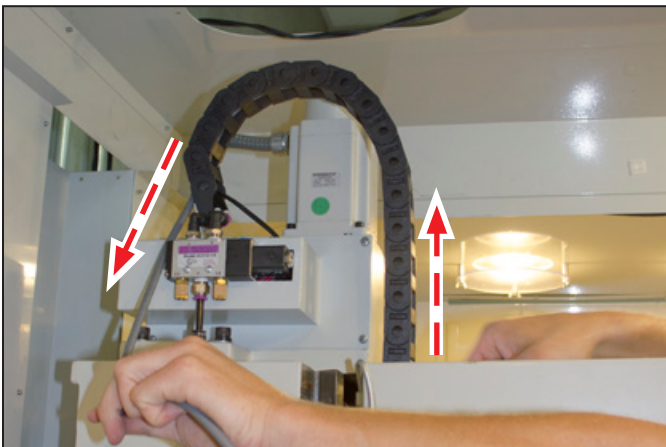

Figure 9
- If power drawbar (optional) is installed: Route through power drawbar's cable carrier and out to back of mill (see **Figure 9**).